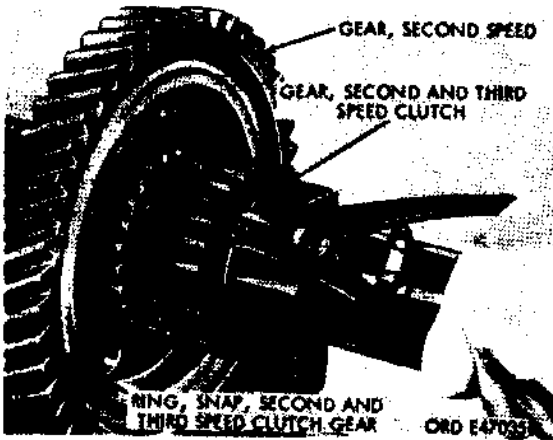

Figure 279. Removal of second and third speed clutch gear
- (e) Remove second and third speed clutch gear snap ring (fig. 279); and slide second and third speed clutch gear and second speed gear from main shaft.